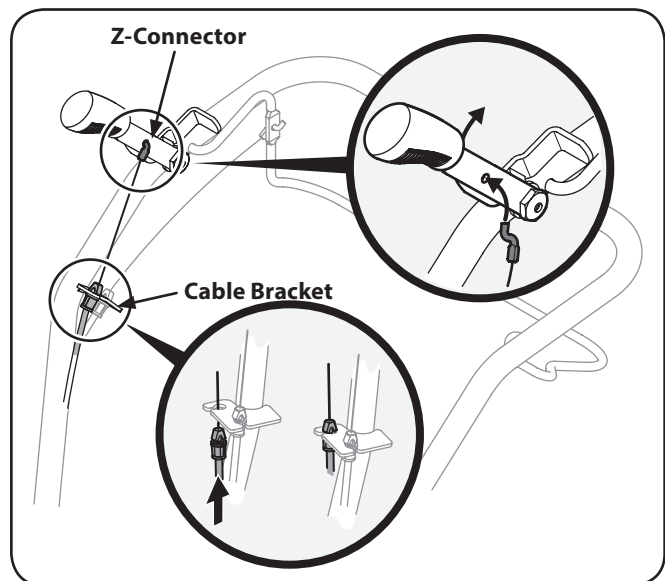

Figure 3-8
- Pull the cable up through the top hole of the cable bracket and push the cable connector up through the hole until the groove in the connector snaps into place. See Fig. 3-8.
- Place the Z-connector into the hole in the reverse clutch handle assembly from the inside of the handle to the outside. See Fig. 3-8.